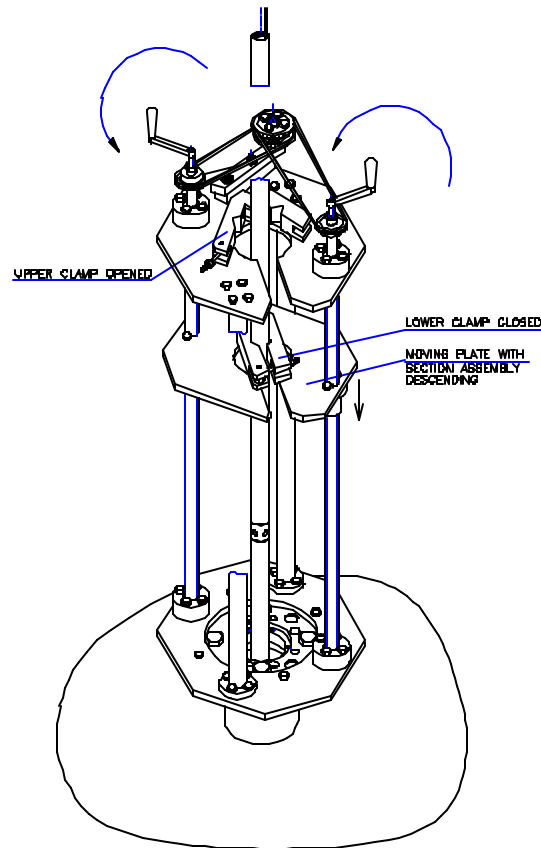

Figure 18
11. Slowly turn either one or both the **Handles** in an anti-clockwise direction. The **Moving Plate** descends and the assembled **Sections** are lowered into the tank (*See Figure 18 on next page*).